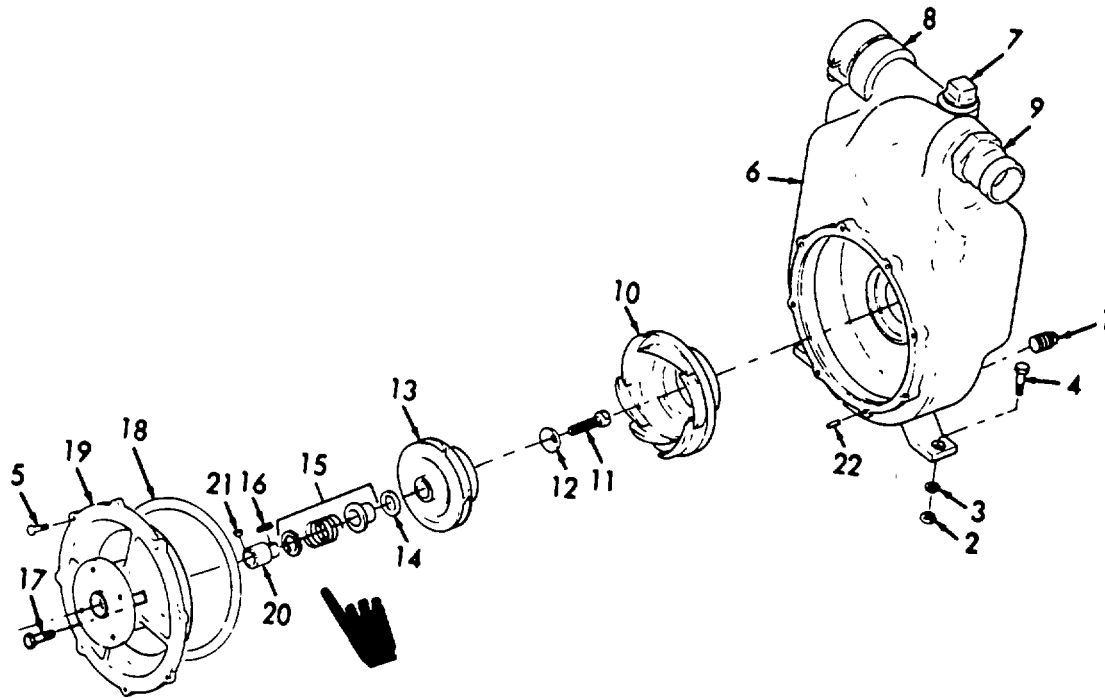

Figure 5-1. Pump Assembly Disassembly.
a. Disassembly. (Refer to figure 5-1).
- (1) Place a suitable container under pump assembly. Remove plug (1) and drain pump housing.
- (2) Remove two nuts (2), two lockwashers (3), and two screws (4).
- (3) Remove eight screws (5) and housing (6). Remove plug (7) and connectors (8 and 9) from housing (6).
- (4) Remove diffuser assembly (10) from impeller assembly.
- (1) Inspect impeller for cracks or broken vanes. Inspect impeller wear ring for signs of wear.
- (2) Inspect diffuser assembly for cracks or wear ring for signs of wear.
- (3) Inspect housing assembly for cracks and damaged inserts (item 22, figure 5-1). Replace housing if it is cracked.